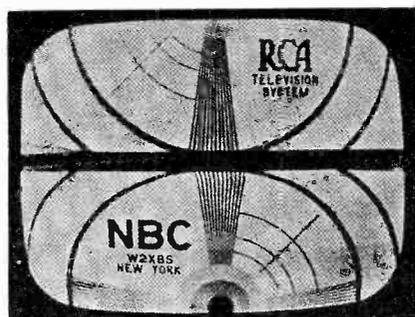

Fig. 9 A test pattern showing the loss of vertical synchronization.
*Loss of Vertical Synchronization.* This condition is shown in Fig. 9 where the pattern rolls and the blanking bars are observed. Usually readjustment of the vertical hold control will lock the oscillator in again if it has drifted out of synchronization. In some cases, a component may have failed in the integration circuit or in the separation circuits so that no sync pulse is present, permitting the oscillator to run free. To check quickly for a good synchronizing pulse, pull out the oscillator tube and place the oscillograph across the grid pin of the oscillator tube socket. If no sync pulse appears at this point, go back to the input of the integrator circuit where the composite clipped sync should be present. Continue the signal tracing, if need be, to the input of the sync clipping circuits and finally to the output of the second detector. If the sync level appears compressed at the second de-